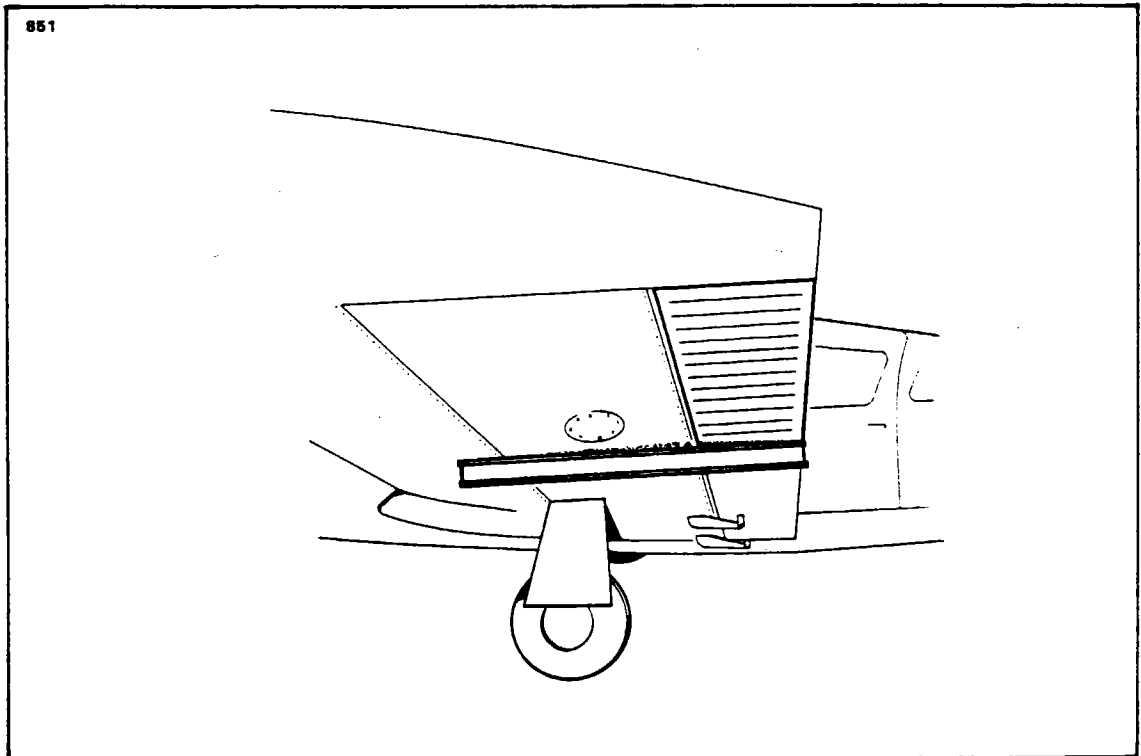

Figure 5-4. Aileron Rigging Tool
2. Place an aileron rigging tool as shown in Figure 5-4 against the underside of the wing and aileron as close as possible to the inboard end of the aileron without contacting any rivets. The tool must be positioned parallel with the wing ribs with the aft end of the tool even with the trailing edge of the aileron. (This tool may be fabricated from dimensions given in Figure 5-19.)